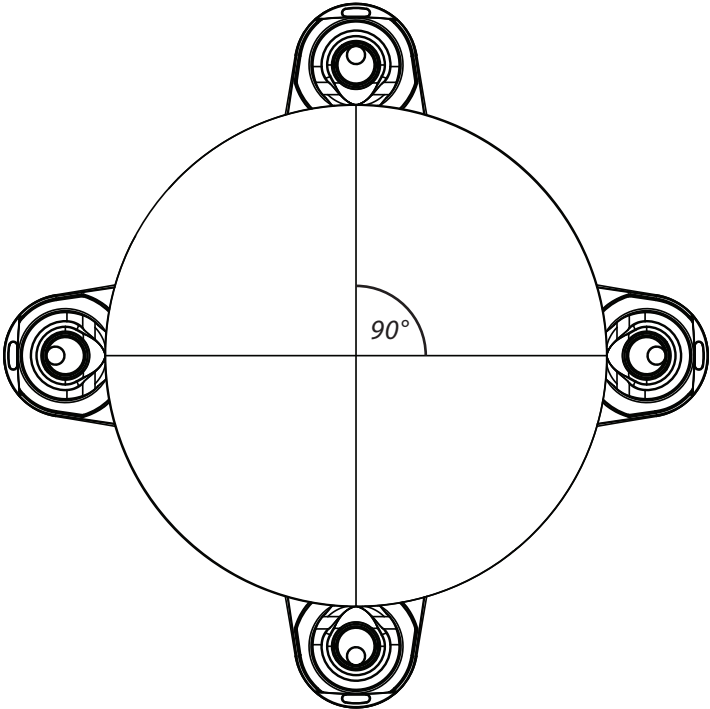

FIG. 5
- 5 Flip the Bucket (F) upside down and arrange the Caster assemblies evenly around the bottom edge [FIG. 5].